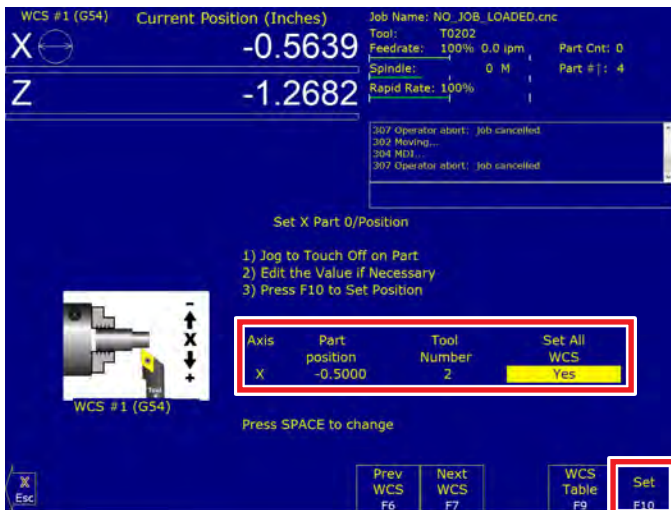

FIGURE 21
G. Jog the tool into position to touch the diameter of the part. Our part is .500” diameter. Our tool is on the backside of the part. For our tool on this part we will be setting the X-axis at (-0.5000) Part Position, Tool Number 2, and “Yes” for Set All WCS. Then click on Set F10 (see Figure 21).